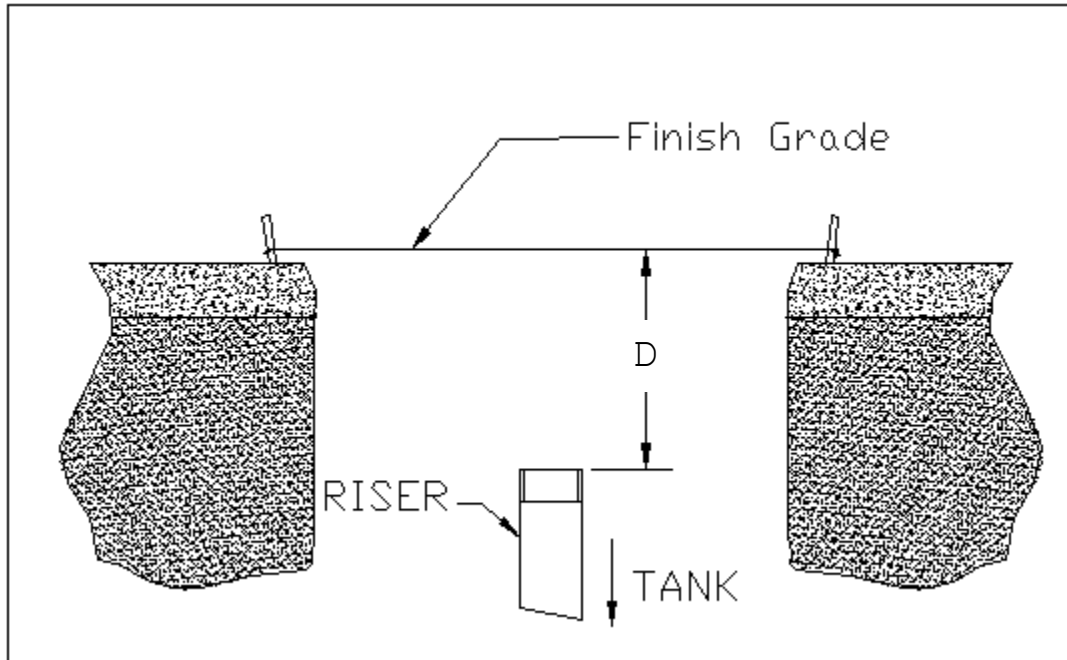

Figure 1
1. Level off a finish grade as shown in Figure 1 using cord. Check with level.